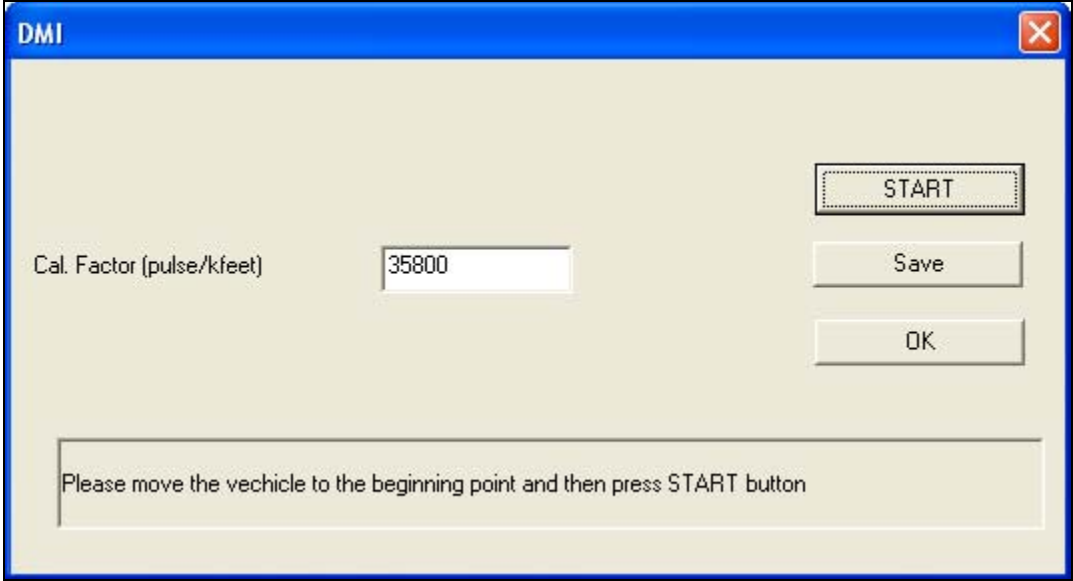

Figure 16. DMI Calibration Start Screen.
- **Calibration:** Press this button to activate the calibration routine. The calibration start screen shown in Figure 16 will appear. Perform the following steps to calibrate the DMI:
- Pave-IR returns to the DMI Calibration Main Screen, as shown in Figure 16, with the newly determined calibration factor displayed.